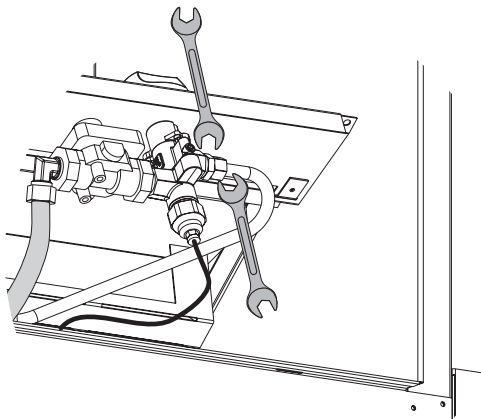

Figure 7
10. Using a 5/8" wrench and the 11/16" wrench, disconnect the supply tube from the gas valve. **See Figure 7.**